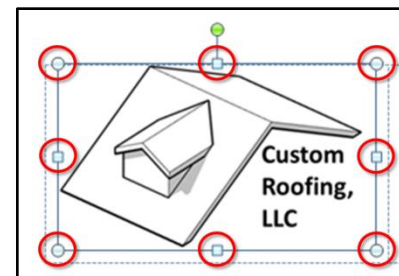

Figure 36: Resize your logo as needed using the control handles.
6. Once your picture has been inserted, click and drag on the control handles to resize the picture as necessary to fit within the space provided. (See **Figure 36** at right.)